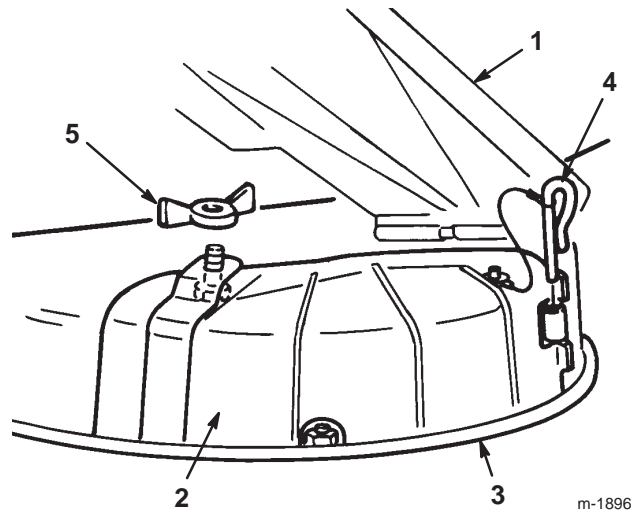

Figure 12
3. Lift the grass deflector and place the discharge cover over the opening onto the lower lip of the mower and slide it into the front hinge (Fig. 12).
4. Slide the hinge pin through the hinge (Fig. 12).
5. Secure the discharge cover to the mower with the wing nut (Fig. 12).